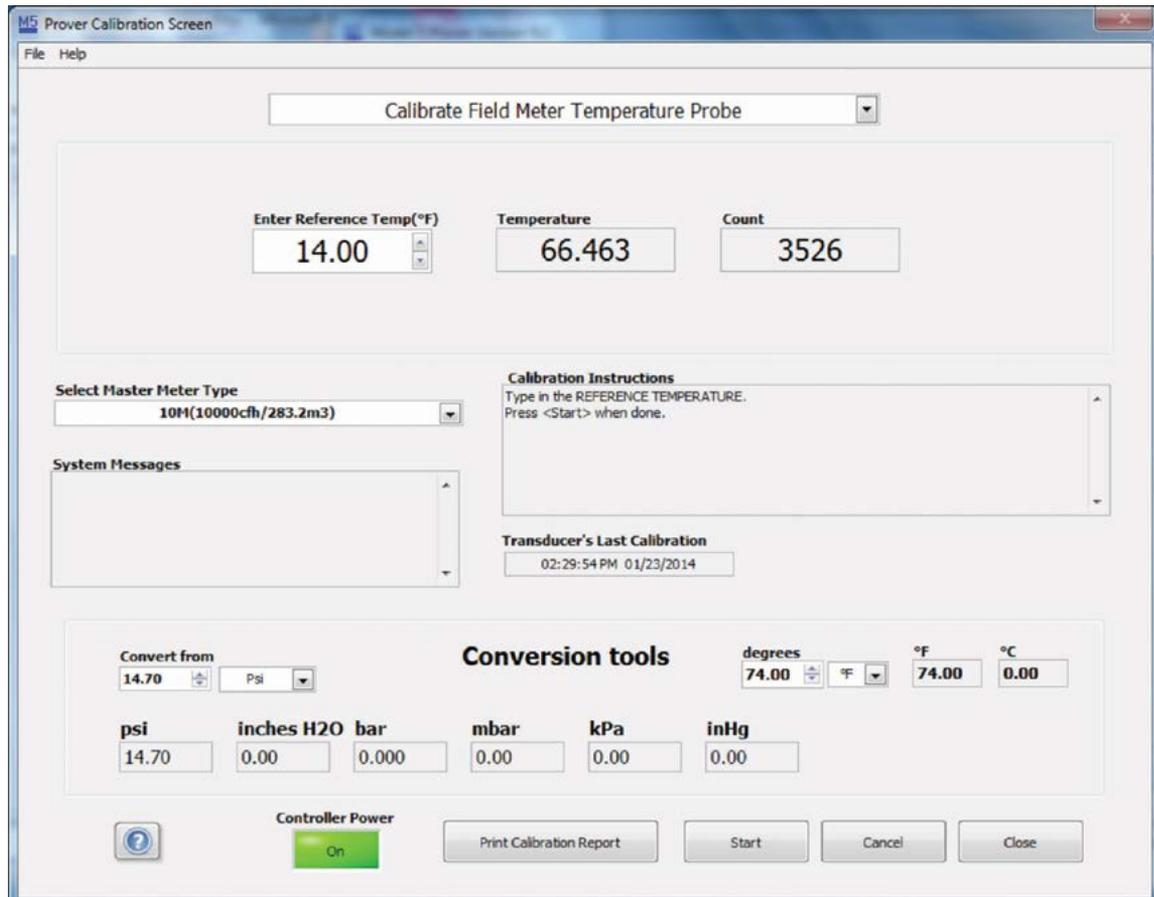

Figure 130: Select Calibrate Field Meter Temperature Probe
1. From the Prover Calibration Screen, select the pull down arrow and click "Calibrate Field Meter Temperature Probe." Refer to **Figure 130**.